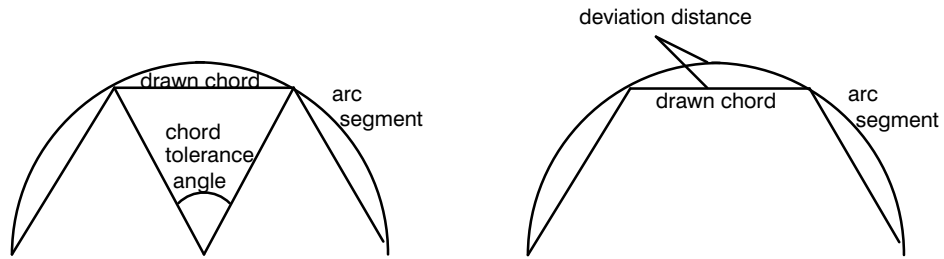

Figure 70. Chord Tolerance Mode
- 0 Sets the chord tolerance mode to **chord angle**, which specifies, in degrees, the maximum angle created when lines from each end of the chord intersect the center point of the circle. When chord tolerance is specified as a chord angle, a circle or arc will have the same number of chords, regardless of its size. See the left-hand side of Figure 70.
- 1 Sets the chord tolerance mode to **deviation distance**, which specifies, in current units, the maximum distance between the chord and the arc segment it represents. When you specify a deviation distance, the number of chords in a circle will vary with its size. See the right-hand side of Figure 70.